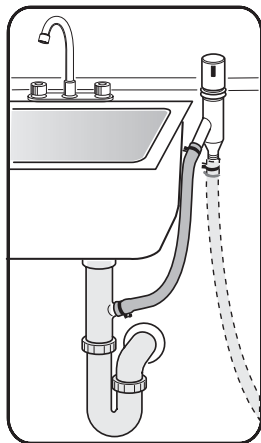

Figure 24
- 3 To the undersink dishwasher drain connection through an air gap, as shown in **Figure 24**.